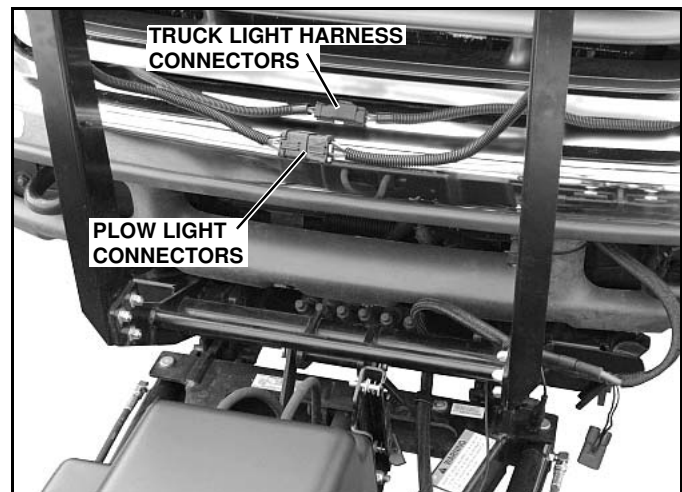

Figure 1-22
7. Unplug light harness connectors on truck, and disconnect plow light connectors, which had been plugged together for corrosion protection during storage. (See Figure 1-22)